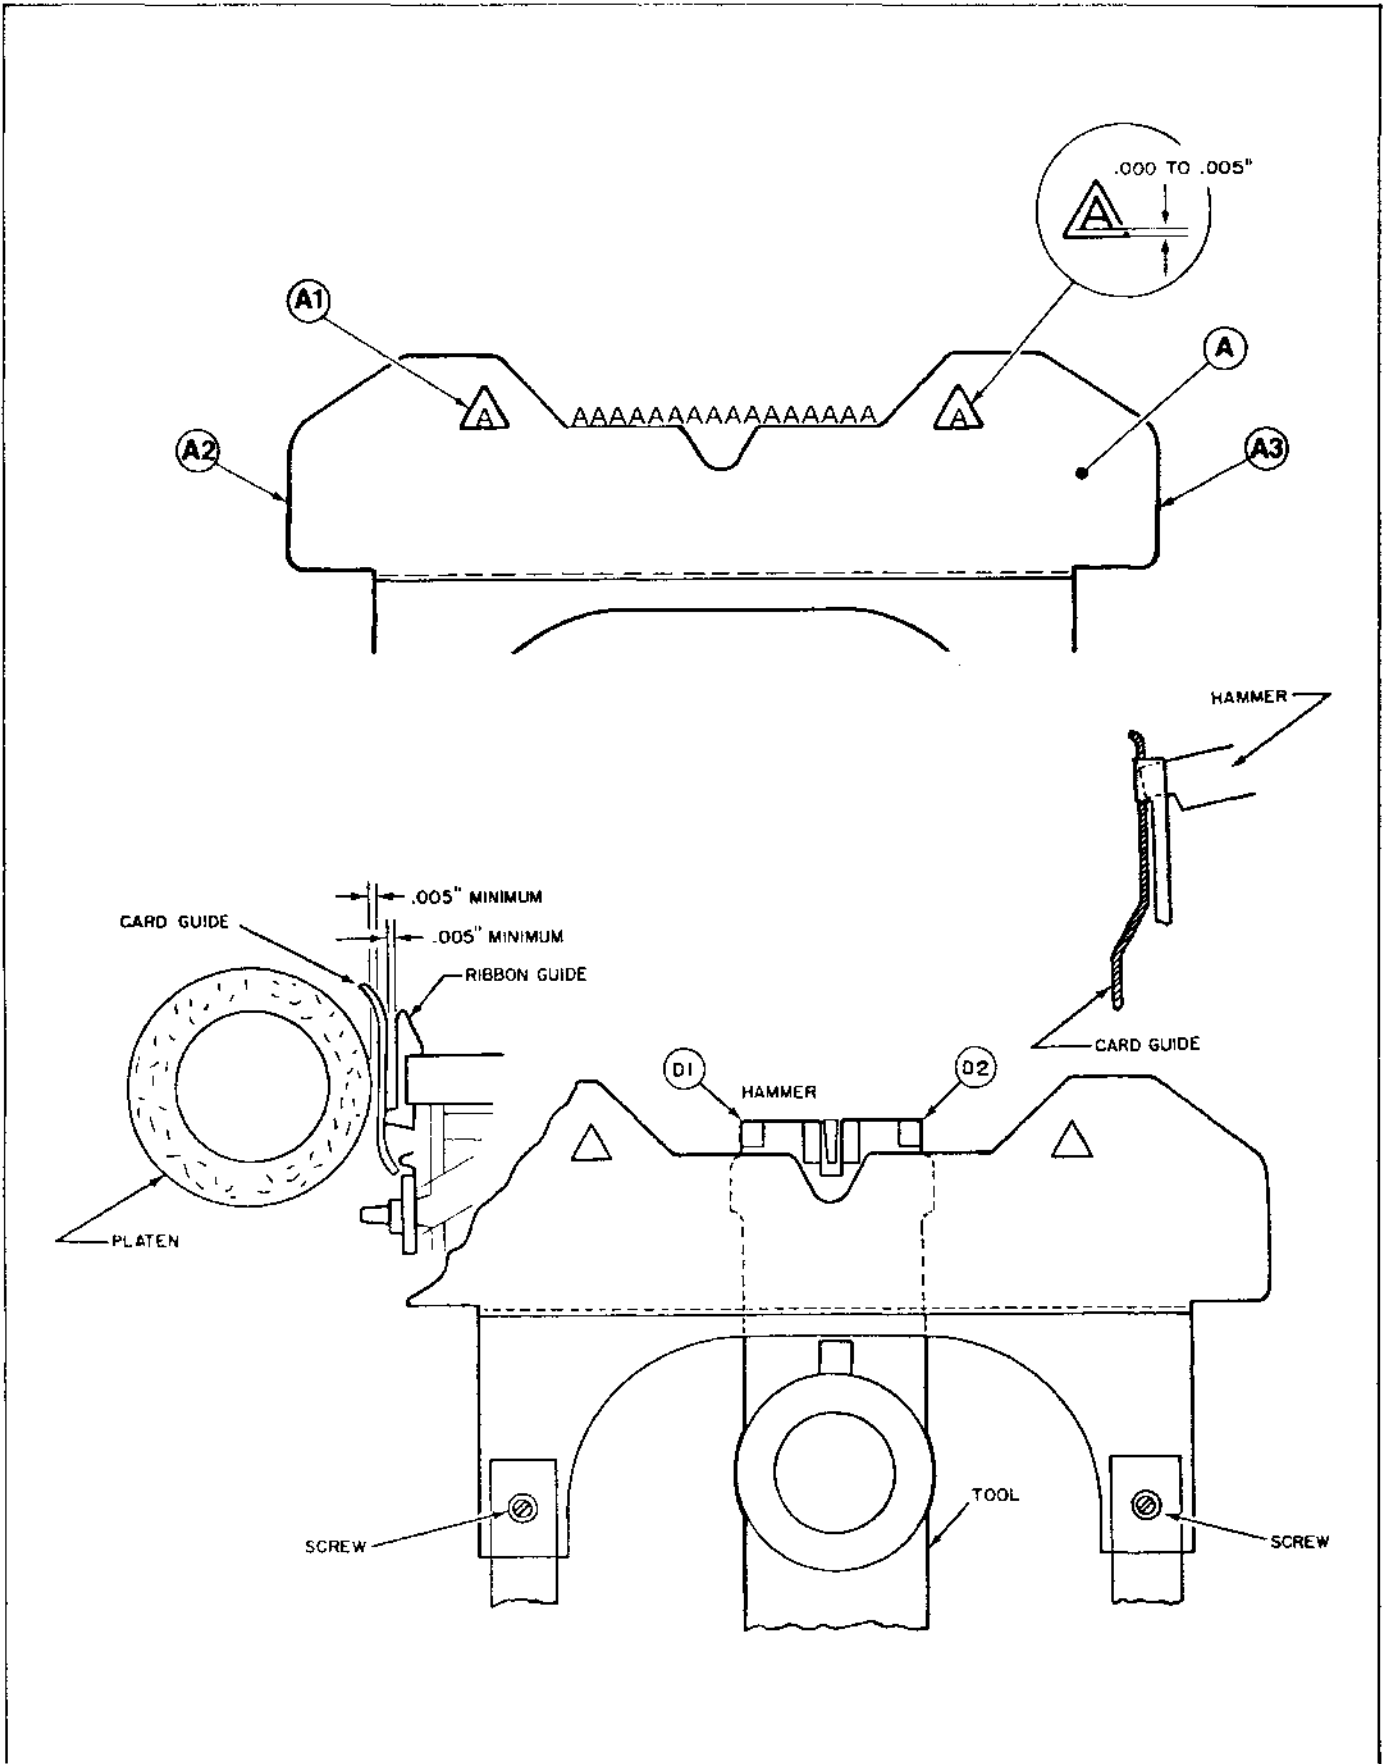

Figure 3-26. Card Guide Adjustments
3.4.1.4.4 Card Guide Height and Position. Refer to Figure 3-26. Proceed as follows: